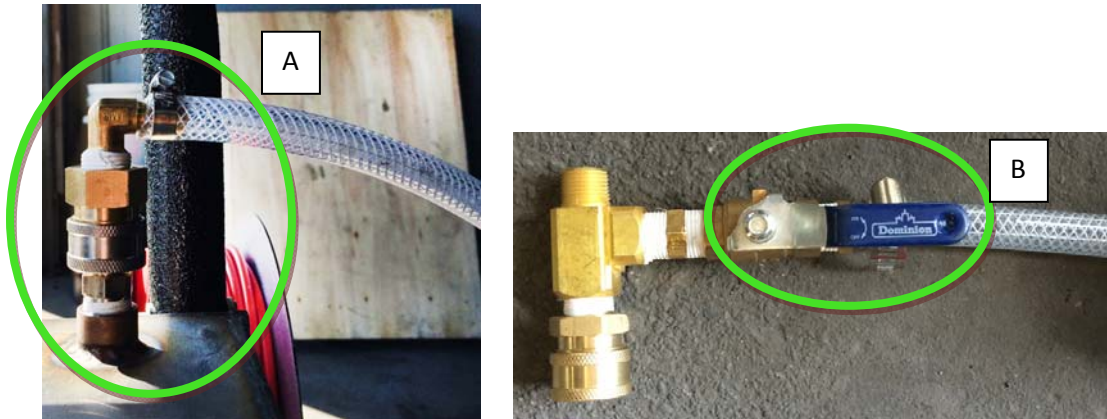

Figure 1.3
6. Connect the return pipe (A) must be connected with the quick connect to the tank, and open the valve (B) before starting. (Figure 1.3)
11. Once the line has been thawed, shut the ball valve on the probe head off to prevent over filling of the water reservoir. (Figure 1.3)